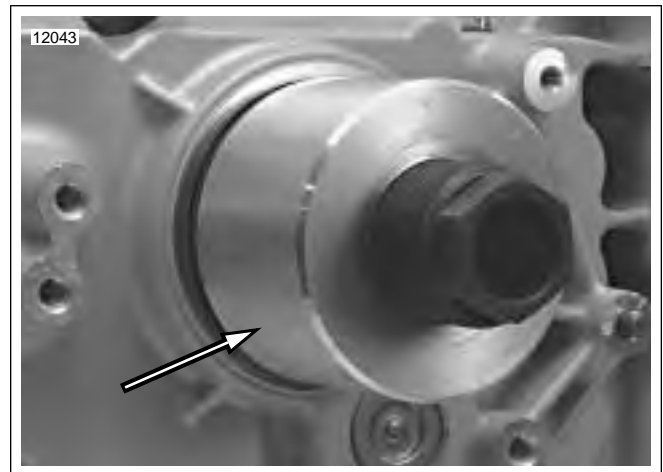

Figure 6-81. Place INSTALLER (Part No. HD-47856-1) over ADAPTER (Typical)
5. See Figure 6-81. Slide INSTALLER (Part No. HD-47856-1) over ADAPTER until cupped end of installer is flat against seal.